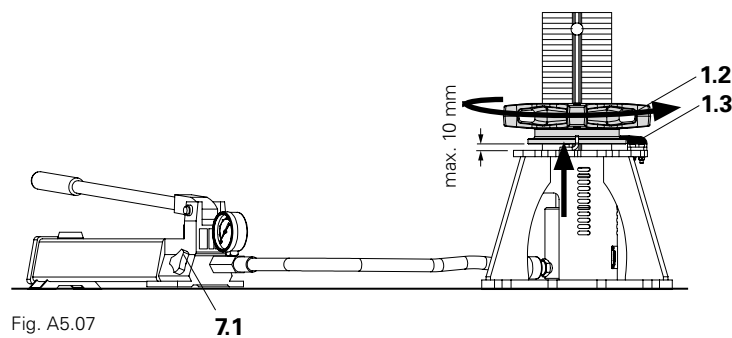

Fig. A5.07
3. Turn the adjusting nut upwards by hand anticlockwise until the adjusting nut rests against the hold-down device. (Fig. A5.07)
4. Carefully open the pump valve (7.1) on the pump and monitor the load indication on the manometer. Cylinder retracts and is lowered with the adjusting nut and prop by max. 10 mm. (Fig. A5.07)